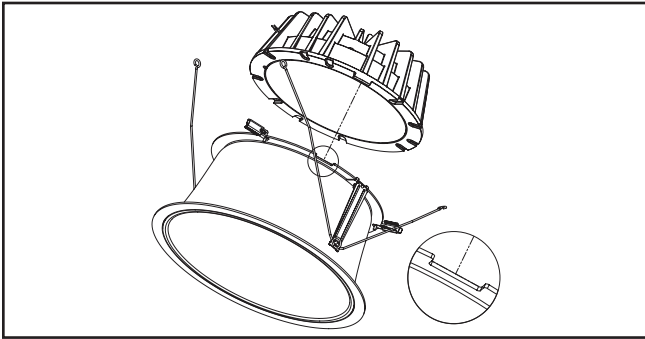

Figure 37.
- Insert LED engine on to trim assembly. Align post on LED engine with slot on trim assembly (Figure 37).